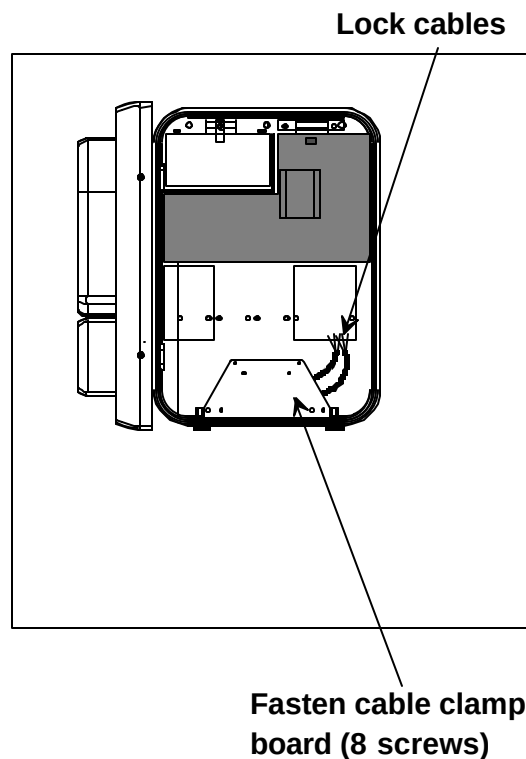

Figure 6: Connecting the cables
2. Line up the cables with the grooves at the back of the terminal (see Figure 6) and screw in the small plate which serves as a cable clamp (use a Ø 5mm Philips screwdriver).